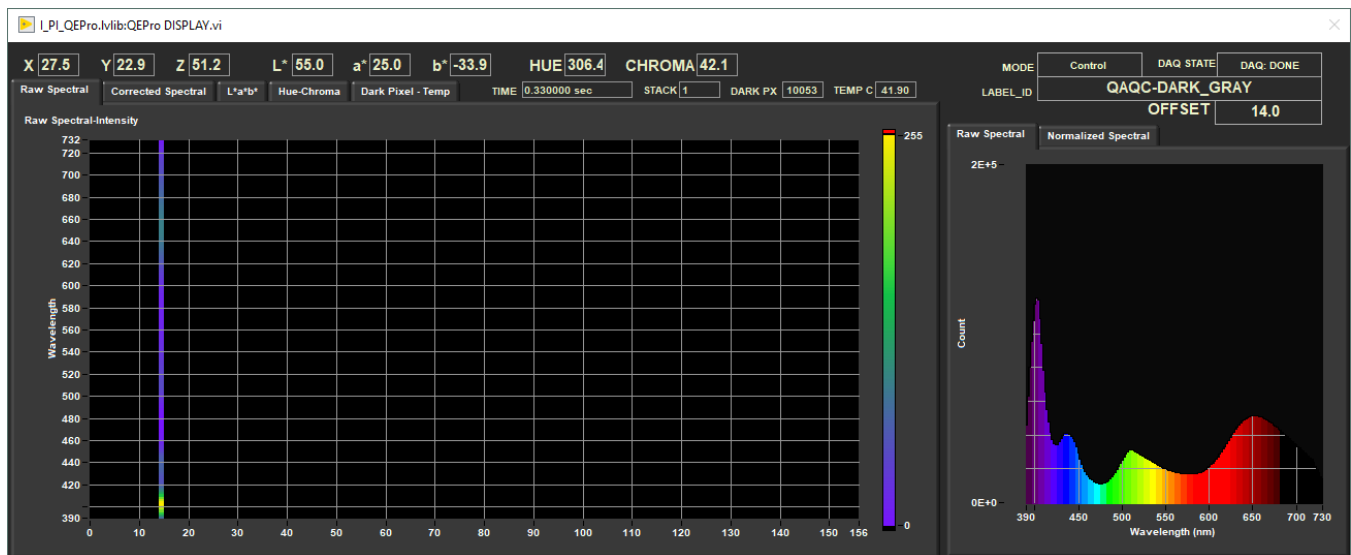

Figure 15 - IMS-SHMSL Display during control set measurements
- a. The QE Pro will begin moving down the track and collecting measurements on each standard. The data for each standard will be displayed on the screen (*Figure 15*).